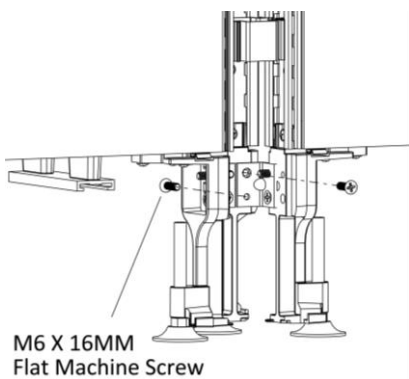

Figure 7
- 13. Secure the base with two M6 X 16MM Flat Machine Screws, (Figure 7).